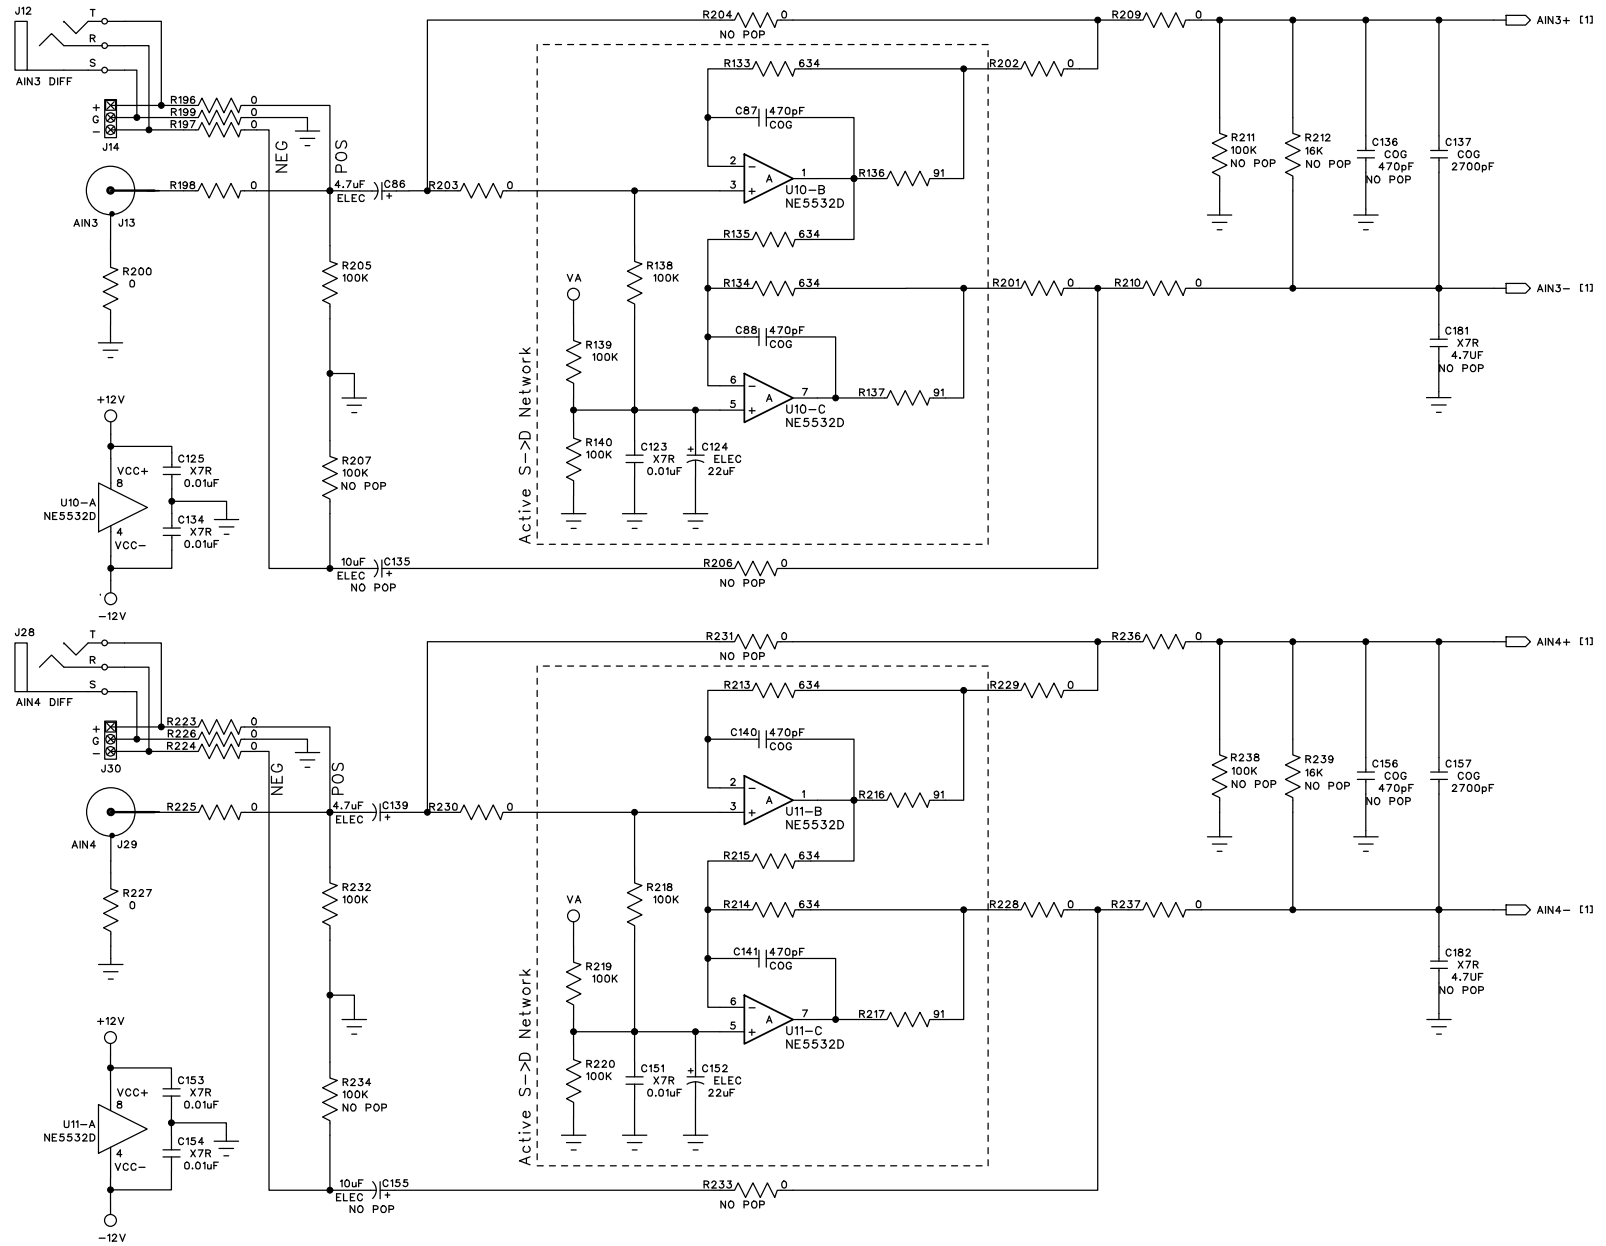

Figure 14. Analog Input Channels 3 & 4 (Schematic Sheet 5)
- When using the default active single-ended-to-differential analog input filter, only the pins labelled "+" (signal) and "G" (ground) are used. When using the optional passive differential filter, all three pins are used. This connectivity is shown in Figure 13 on page 26 and Figure 14 on page 27.